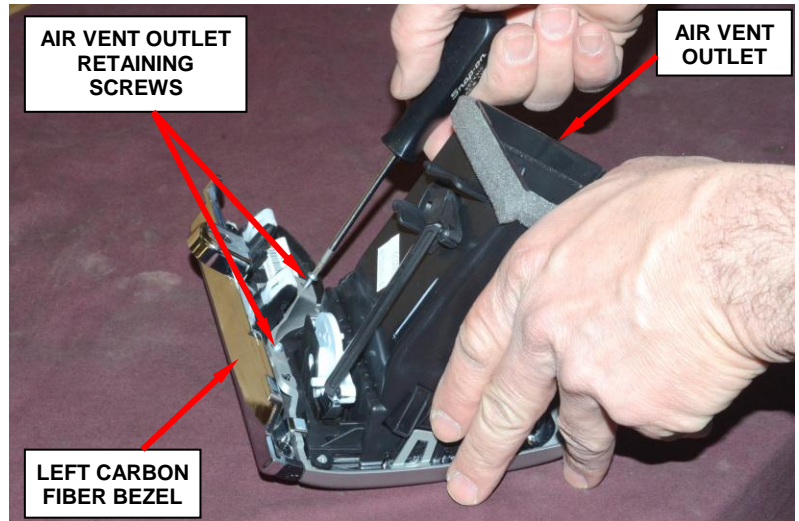

Figure 12 – Air Vent Outlet Retaining Screws
25. Place the air vent outlet onto the new left carbon fiber bezel and install the two retaining screws. Tighten the screws securely (Figure 12).